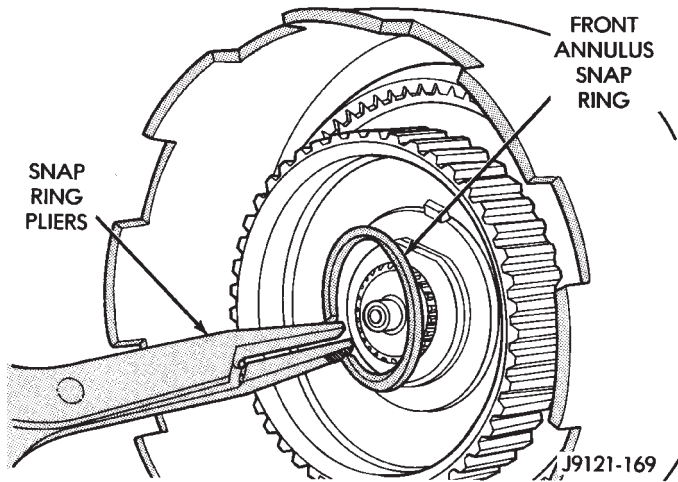

Fig. 189 Installing Front Annulus Snap Ring
(20) Install front annulus snap ring (Fig. 189). Use snap ring pliers to avoid distorting ring during installation. Also be sure ring is fully seated.